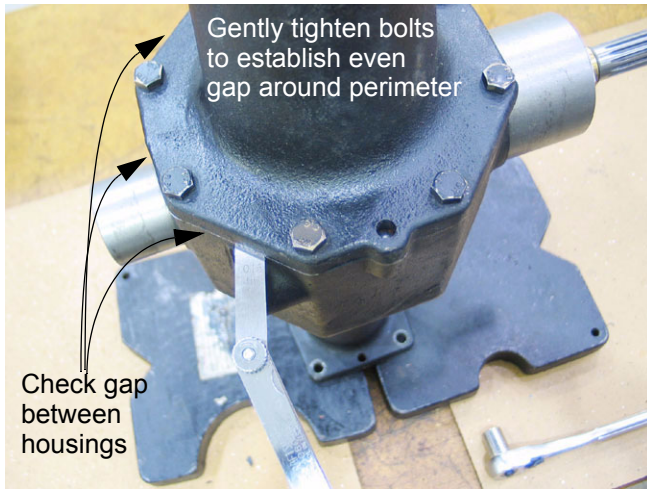

Figure 9.59
- 9.59. Install the right side axle housing for measurement purposes. See Figure 9.59.